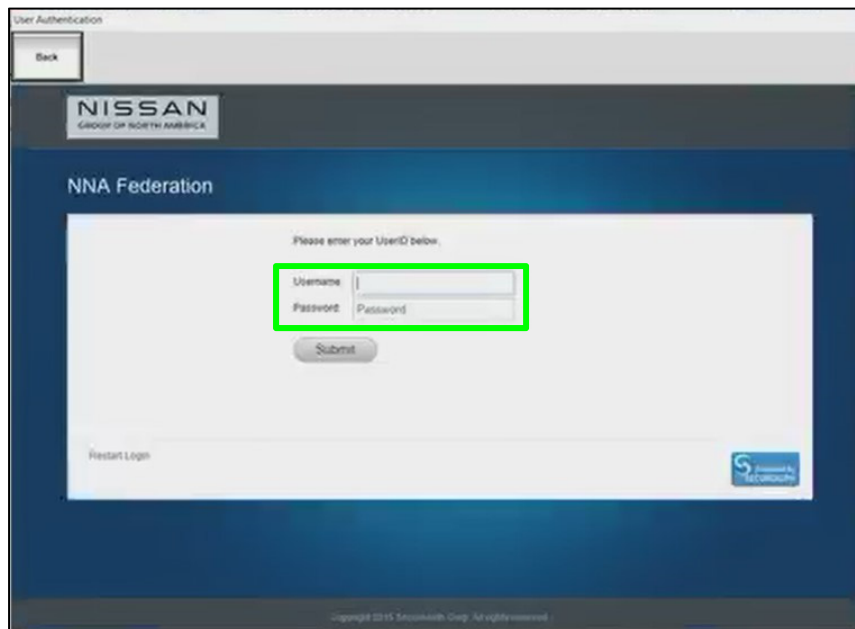

Figure 12
17. Login using your NNAnet credentials (Figure 12).